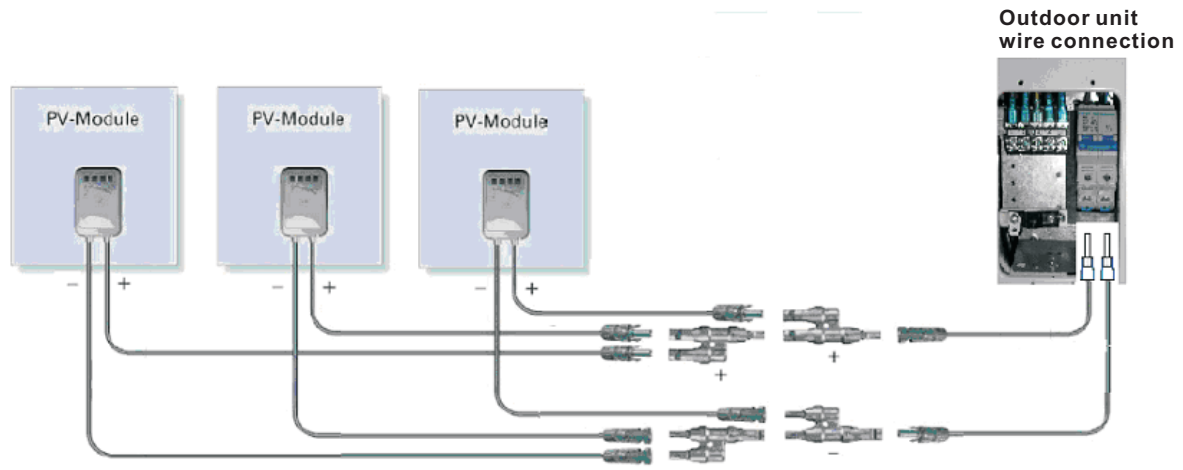

Fig.52a
- Connection method A: The distance between the modules is near, no need to use the extension cord(3 meters), see Fig.52a.